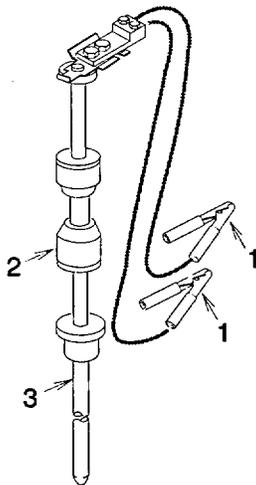

Figure 4-21. Self Driving Ground Rod Assembly
- (1) Install cable and hoseline as follows:
- (a) Drive anchor stake into the ground approximately 15 feet from each tower in line with both towers. Stake should protrude from ground approximately 6 inches. Use the driving head to drive stakes (figure 4-21).